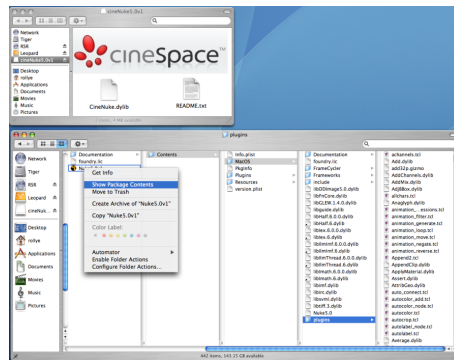

Figure 3.1: cinePlugin Nuke OSX
- Go into the Contents directory, then into the MacOS directory, and finally into the plugins directory. (Figure 3.1)